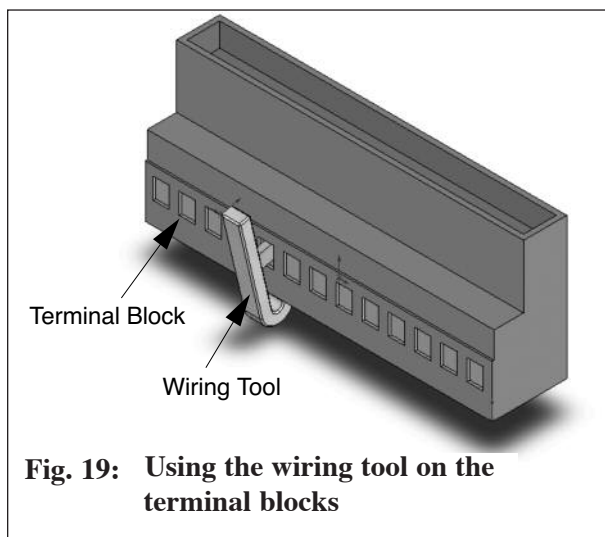

Fig. 19: Using the wiring tool on the terminal blocks
4. Hook the wiring tool into the desired slot of the terminal block as shown in Fig.19.